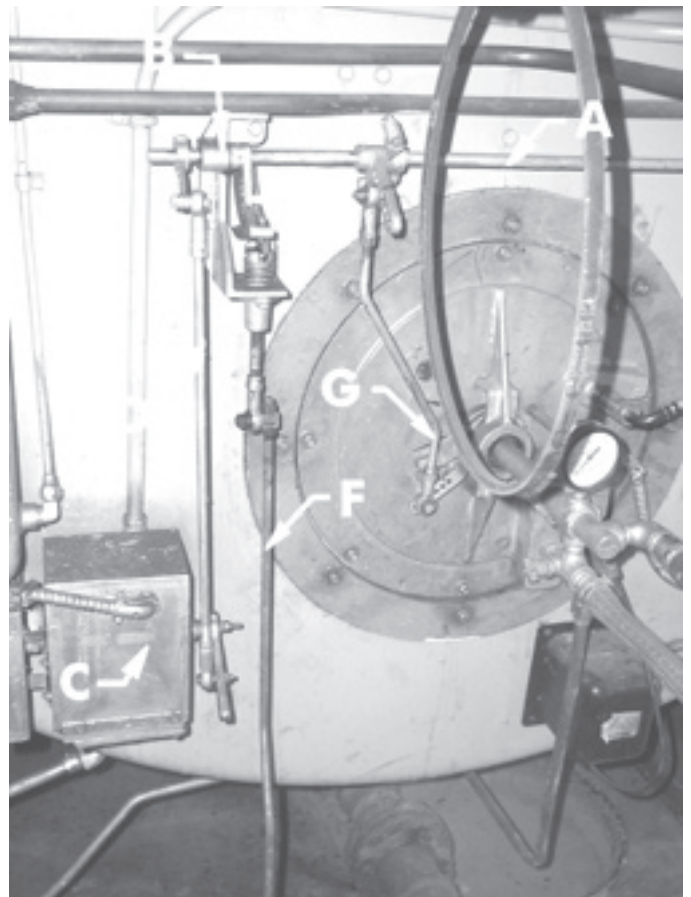

Figure 11-26. Jackshaft
maintain the pressure or temperature at the boiler outlet is connected to a shaft (A in Figure 11-26) by mechanical linkage. The shaft is supported on the boiler by two or more bearings (B).
As the modulating motor shaft (C) rotates, or the actuator (not shown) changes position, the linkage (D) rotates the shaft. Some burners may not have a single central jackshaft, especially with small burners the linkage may simply connect one device to the next, but most burners will have one. In Figure 11-26 the gas valve (not shown) is driven by a cam (E) which pushes on linkage (F) and the burner register is controlled by another link (G). Notice that the linkage that controls the air, moving either a damper or register, is directly connected to the shaft without any adjustable cam.
The first step in setting up controls with a jackshaft is to establish linearity of air flow. That's all you have to do to get linear control because the fuel will be adjusted to match air flow. With simple linkage like that shown in Figures 11-26 and 11-29 establishing linearity can be very difficult but it's an exercise that's essential to get consistent control. I'll cover it in more detail in a bit.